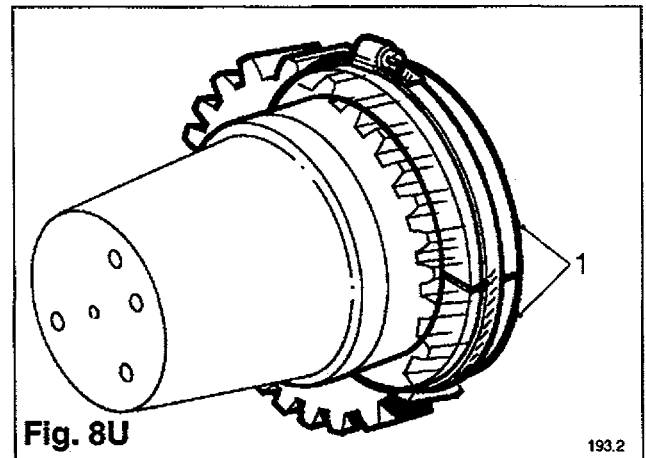

Fig. 8U
The crankshaft gear is an interference fit and must be heated to 250°C to give sufficient expansion for fitting. This must be accurately monitored or damage to the hardened surface will occur. Place the two halves of the gear spacing tool, Part No. **T85001/33** (1) on the crankshaft, retaining them with a hose clip. **Fig. 8U**. Holding the heated gear with an insulated glove or using a suitable pair of tongs, push the gear onto the crankshaft up to the spacing tool, at the same time lining up the timing mark on the gear with the timing mark on the crankshaft. Allow the gear to cool down before removing the tool.